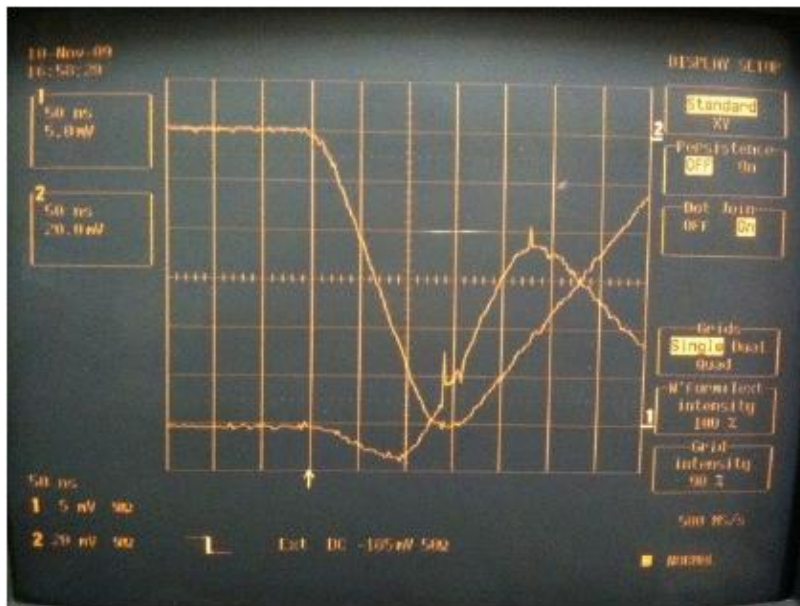

Figure 4: Input signal and CFD monitor output.
- threshold (T): 60 mV Measure with Voltmeter (x10 output)
- walk (Z): 2 mV Measure with Voltmeter
- delay (D): 80 ns Set with delay module + 2x10ns cables
Connect the CFD monitor output (M) to the scope CH2 and reproduce Fig. 4.